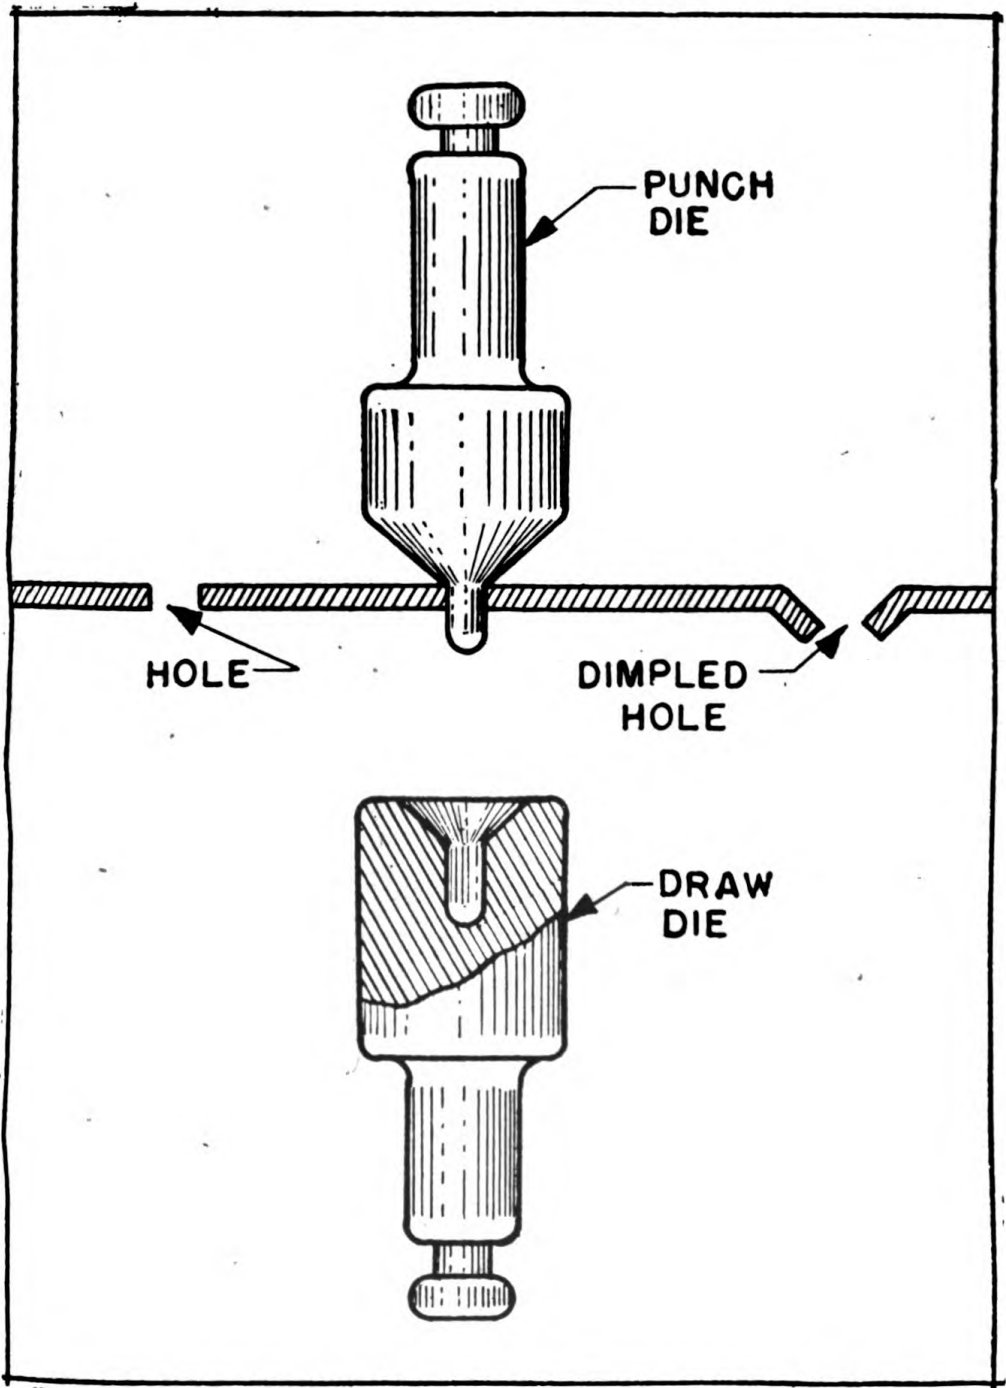
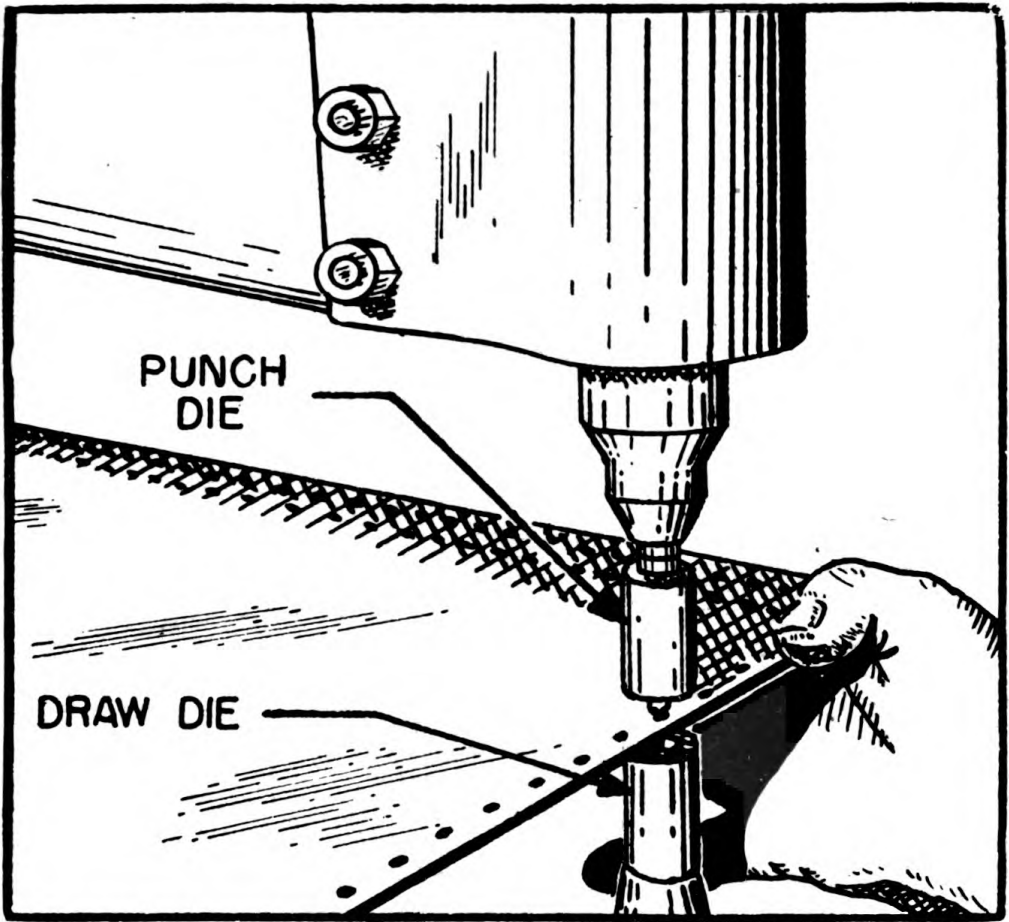
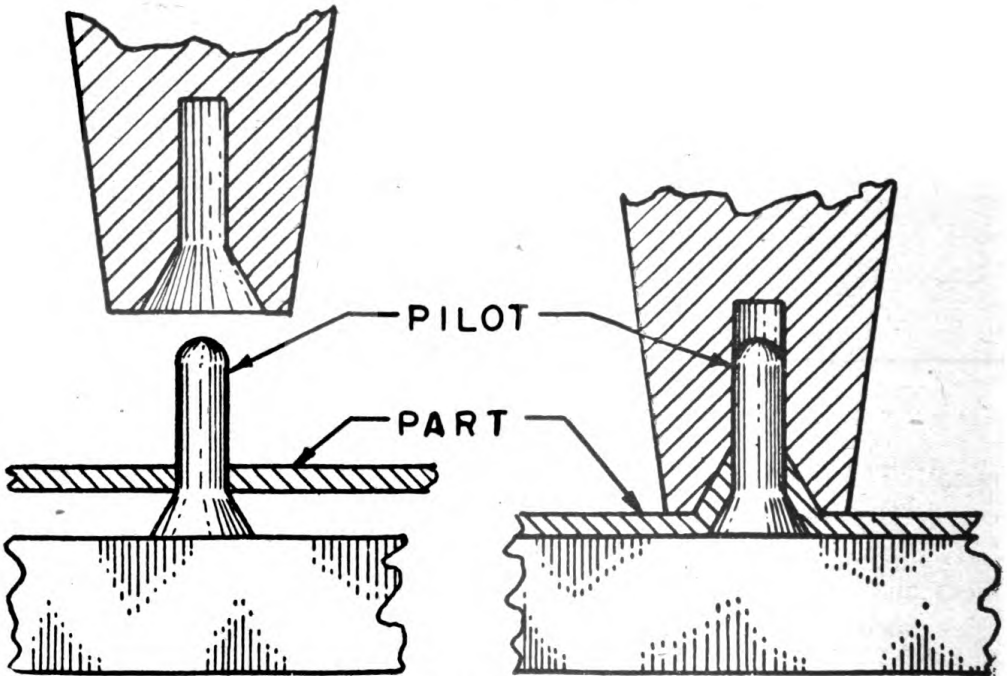

Figure 147. Dimpling tools.
Figure 148. Dimpling sheet metal with a dimpling machine.
Figure 149. Dimpling sheet metal with a pneumatic hammer.
*m.* DIMPLING TOOLS. These tools are used to prepare sheet metal for countersunk rivets. A set usually consists of a punch die and a draw die. (See fig. 147.) Dimpling may be accomplished by hand or power tools. In using dimpling tools, care should be taken to use the tool with the correct angle.
(2) *Dimpling with power tools.* Power tools, such as pneumatic hammers and squeezers and dimpling machines, may be used for dimpling. Dies, such as those shown in figure 147, are mounted in the squeezer or dimpling machine as shown in figure 148. Dimpling with pneumatic hammer is accomplished as shown in figure 149.